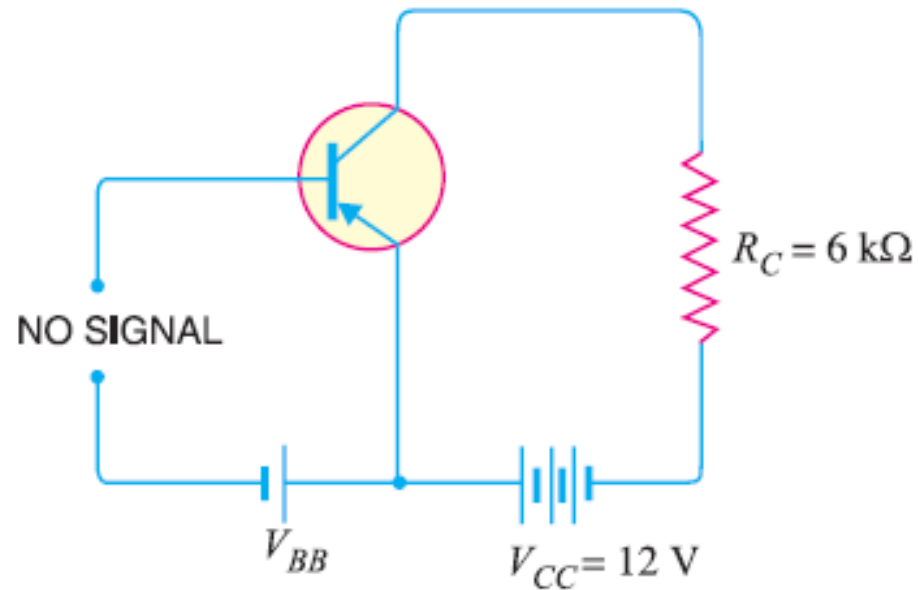

Fig.14
- In the circuit diagram shown in Fig. 14, if $V_{CC} = 12V$ and $R_C = 6\text{ k}\Omega$, draw the d.c. load line. What will be the Q point if zero signal base current is $20\mu A$ and $\beta = 50$?